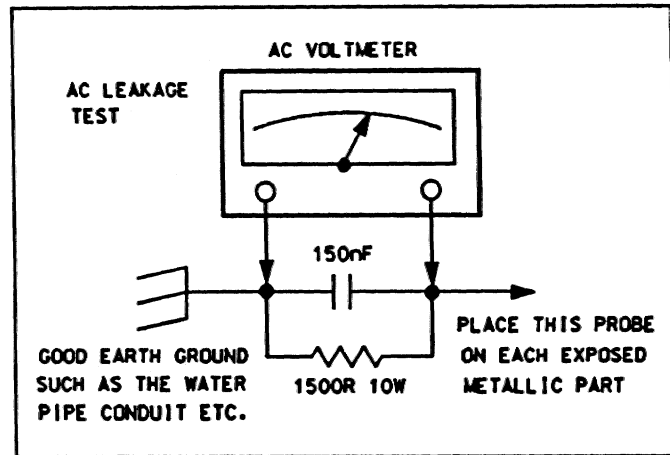

FIGURE 4-3. AC Leakage Test
b) Connect a 1500 Ω , 10 watt resistor in parallel with a 150nF AC capacitor between a known good earth ground and each exposed metallic part, one at a time. With an AC voltmeter having a minimum sensitivity of 1000 μ V, measure the voltage across the 1500 Ω resistor. See Figure 4-3. The rms voltage measured **MUST NOT**